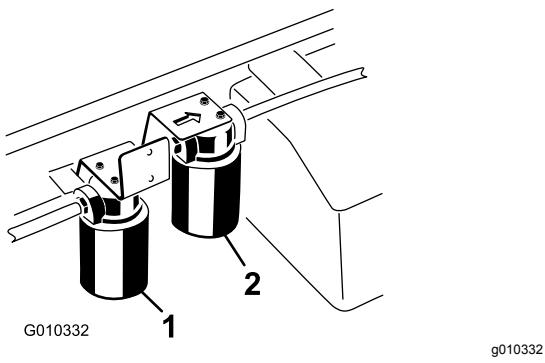

Figure 68
- Place a drain pan under the filter and remove the filter (Figure 68).
1. Clean the area around the high-flow-filter mounting area (Figure 68).